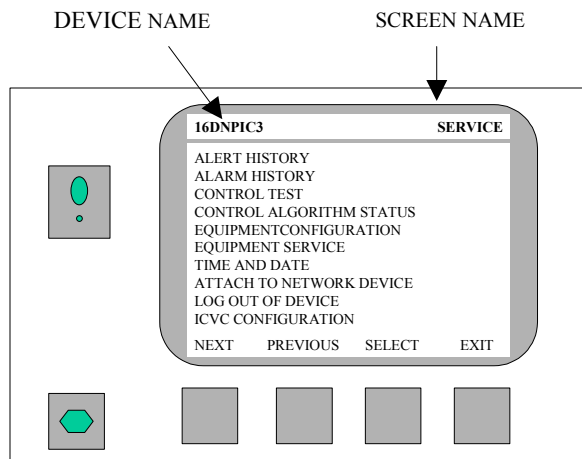

Fig. 3-4 ICVC Service Screen
- When not in the default screen, the upper right-hand corner of the ICVC always displays the name of the screen that you have entered. (Fig.3-4)